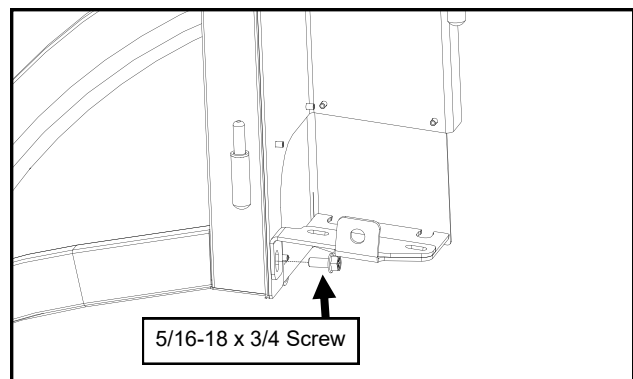

Fig. 9.1 (Rear Mount to Side Frame Fastener)
- 9.1 Fasten the rear mount to the left side frame as shown in Figure 9.1.